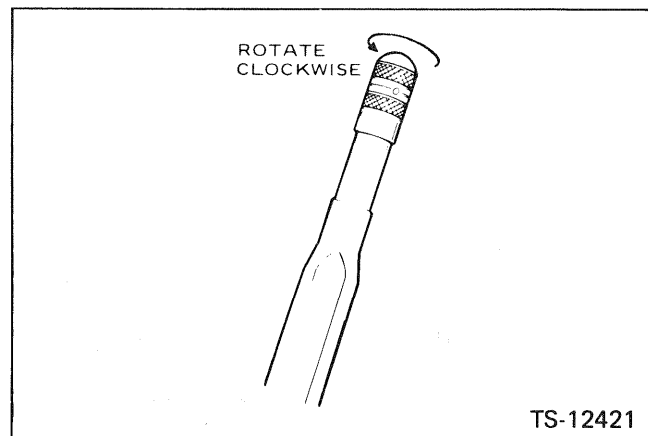

Fig. 13-4 Parking Brake
1. With lever in release position, turn acorn on end of handle clockwise as shown in Fig. 13-4.